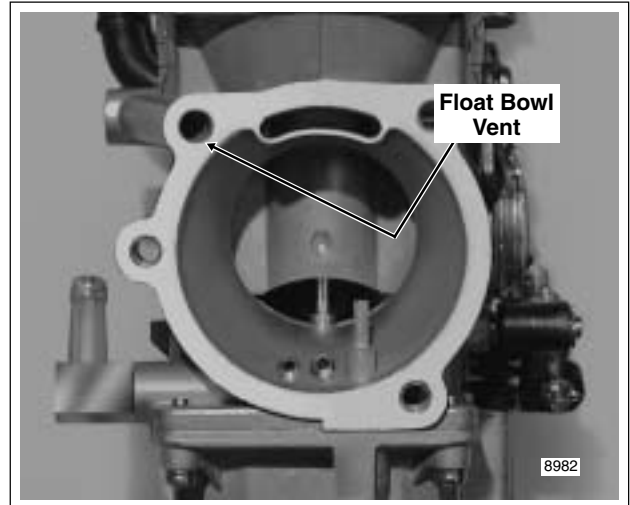

Figure 4-5. Drain Carburetor Float Bowl
11. Keeping carburetor upright, move assembly to bench area. Tilting carburetor, carefully pour gasoline in float bowl into a suitable container. Gasoline will exit float bowl vent shown in Figure 4-5.